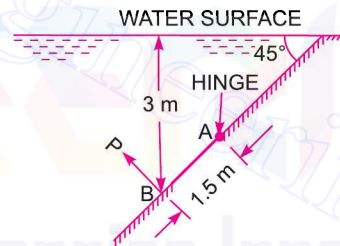

Fig. 3.55
15. An inclined rectangular gate of width 5 m and depth 1.5 m is installed to control the discharge of water as shown in Fig. 3.55. The end A is hinged. Determine the force normal to the gate applied at B to open it.